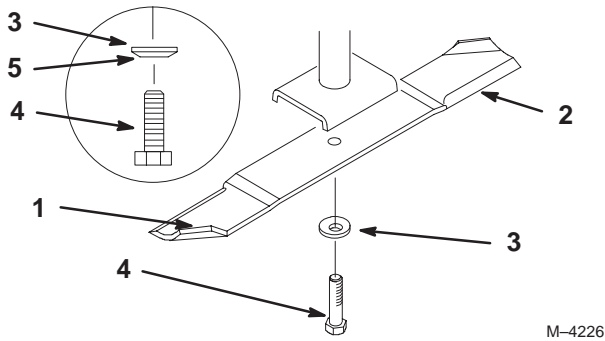

Figure 20
1. Install the blade onto the spindle shaft (Fig. 20).
2. Install the spring disk and blade bolt (Fig. 20). **Torque the blade bolt to 85–110 ft-lb (115–150 N•m).**